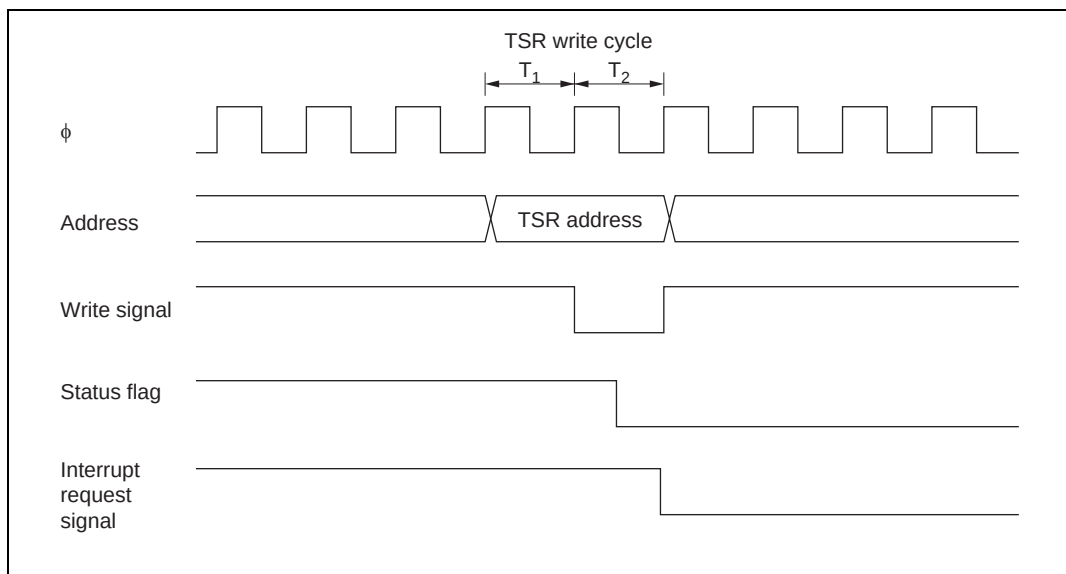
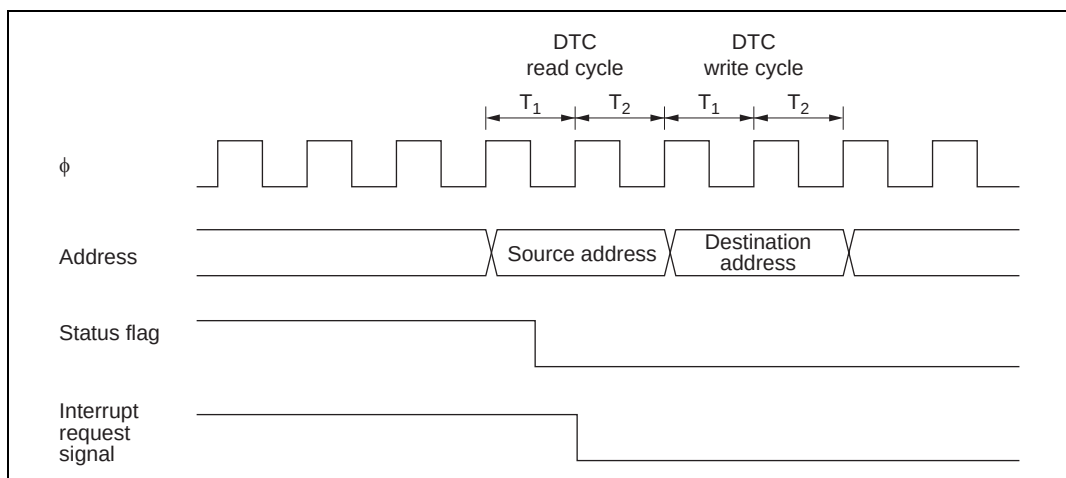

**Figure 9.46 Timing for Status Flag Clearing by CPU**
**Figure 9.47 Timing for Status Flag Clearing by DTC Activation**
**Status Flag Clearing Timing:** After a status flag is read as 1 by the CPU, it is cleared by writing 0 to it. When the DTC is activated, the flag is cleared automatically. Figure 9.46 shows the timing for status flag clearing by the CPU, and figure 9.47 shows the timing for status flag clearing by the DTC.